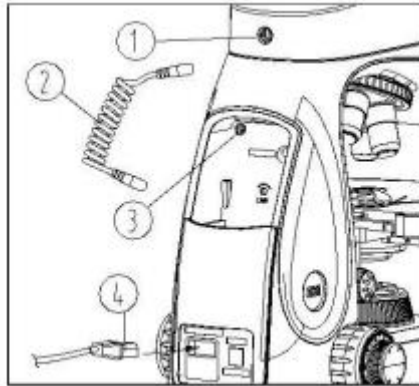
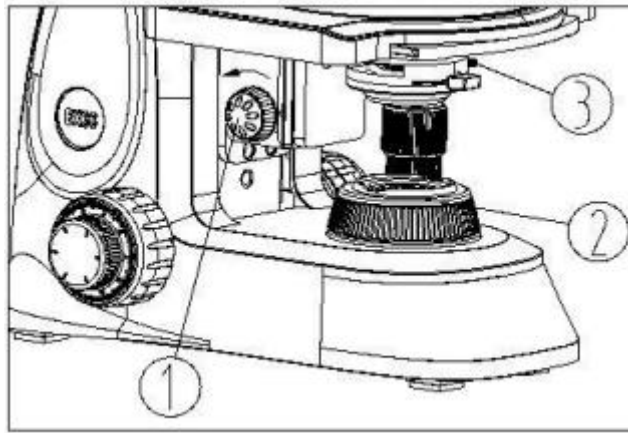

Figure 17
Figure 31
- 4) Insert one end of the power cable (②) into the power socket (①) located on the back of the LED fluorescence illuminator. Connect the other end to the power socket (③) on the back of the microscope. Ensure both connections are secure. (See Fig. 17)
1. Rotate the condenser up-down knob ① to raise it to the highest position (see Fig. 17).
3. Rotate the field diaphragm adjustment ring ② to set the field diaphragm to the smallest position. At this point, the image of the field diaphragm will be visible in the eyepiece.
4. Adjust the condenser up-down knob ① to focus the image of the field diaphragm as clearly as possible.
5. Use the center adjustment screw ③ to align the image with the center of the field of view (see Fig. 31).